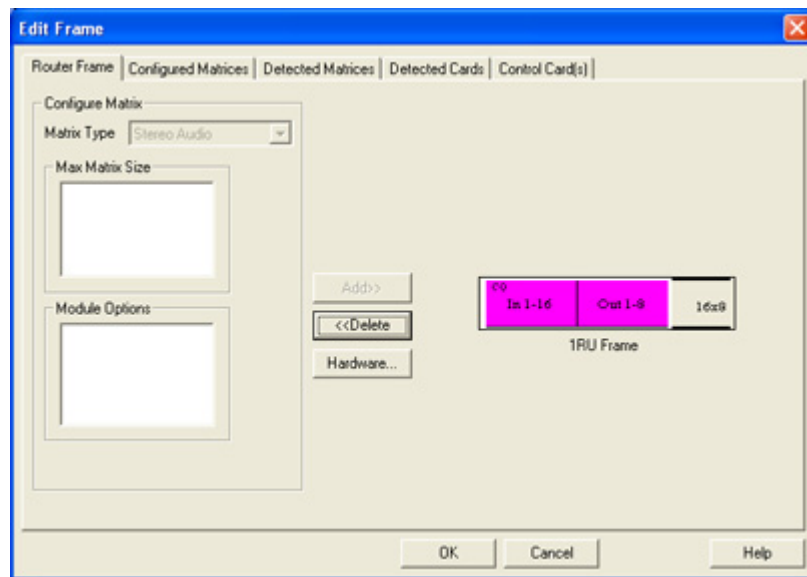

Figure 5 Router Frame Tab
2. Select the Router Frame tab. The Router Frame tab's matrix information should appear as shown in Figure 5.